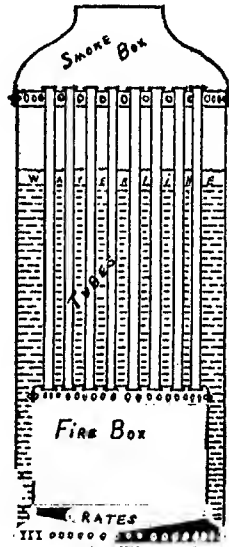

FIG. 1.—STANDARD VERTICAL BOILER.
**Vertical Boilers.**—This type illustrated in Fig. 1 has a cylindrical shell set on end with the grate at the bottom and the fire tubes running vertically to the flue or stack. The fire box is smaller than the shell and is connected to it at the bottom either by a wrought-iron ring or by a flanged plate,